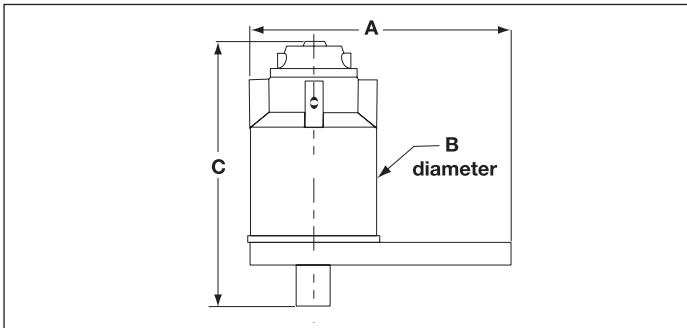

**Figure 1, Changing the Reaction Plate**
**WARNING:** Do not hold torque multiplier reaction bar or reaction plate (Fig. 1, Item 1) while applying torque. Normal multiplier deflection could create pinch a point.
**WARNING:** Prior to EACH use, check reaction plate/bar holding screws to insure they are tight (Fig. 1, Item 2).
**WARNING:** Prior to EACH use, inspect output square drive (Fig. 1, Item 4) for visible sign of fatigue or fracture. Replace if necessary.
A controlled-shear output square drive (Fig. 1 Item 4) protects internal components in the event maximum output capacity is exceeded. This overload-protection feature causes the drive to fracture when output exceeds from 103% to 110% of rated output capacity. One replacement drive is included with the torque multiplier (E391, E392, E393, E492, E493, E494, E495). (Order additional replacements from your Enerpac distributor.)
3. Mount the proper size female square drive socket onto the torque multiplier's output square drive (Fig. 1, Item 4). Position socket and torque multiplier on the fastener to be tightened.